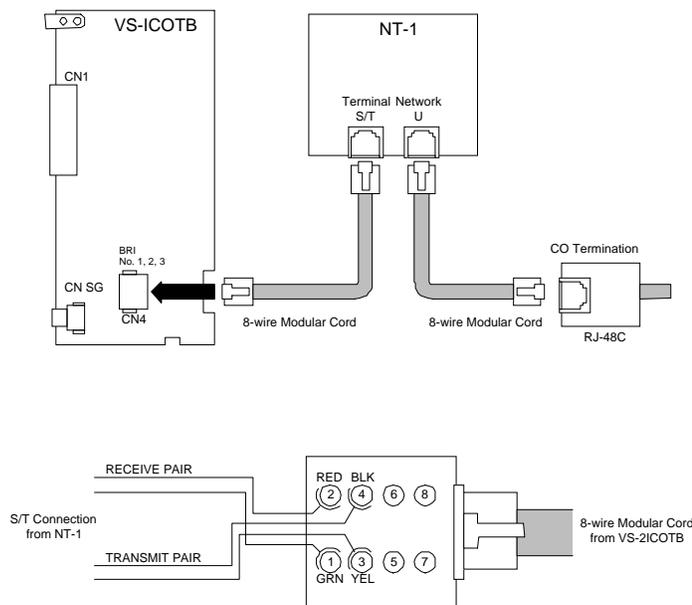

FIGURE 36. ISDN BRI TRUNK CONNECTION
**Note:** Figure 36 illustrates the typical connection of one ISDN BRI circuit. A separate NT-1 device is required for each ISDN BRI circuit terminated to the VS-ICOTB card. Use another VS-ICOTB card connector for connection of a second ISDN BRI circuit. A termination resistor is required.